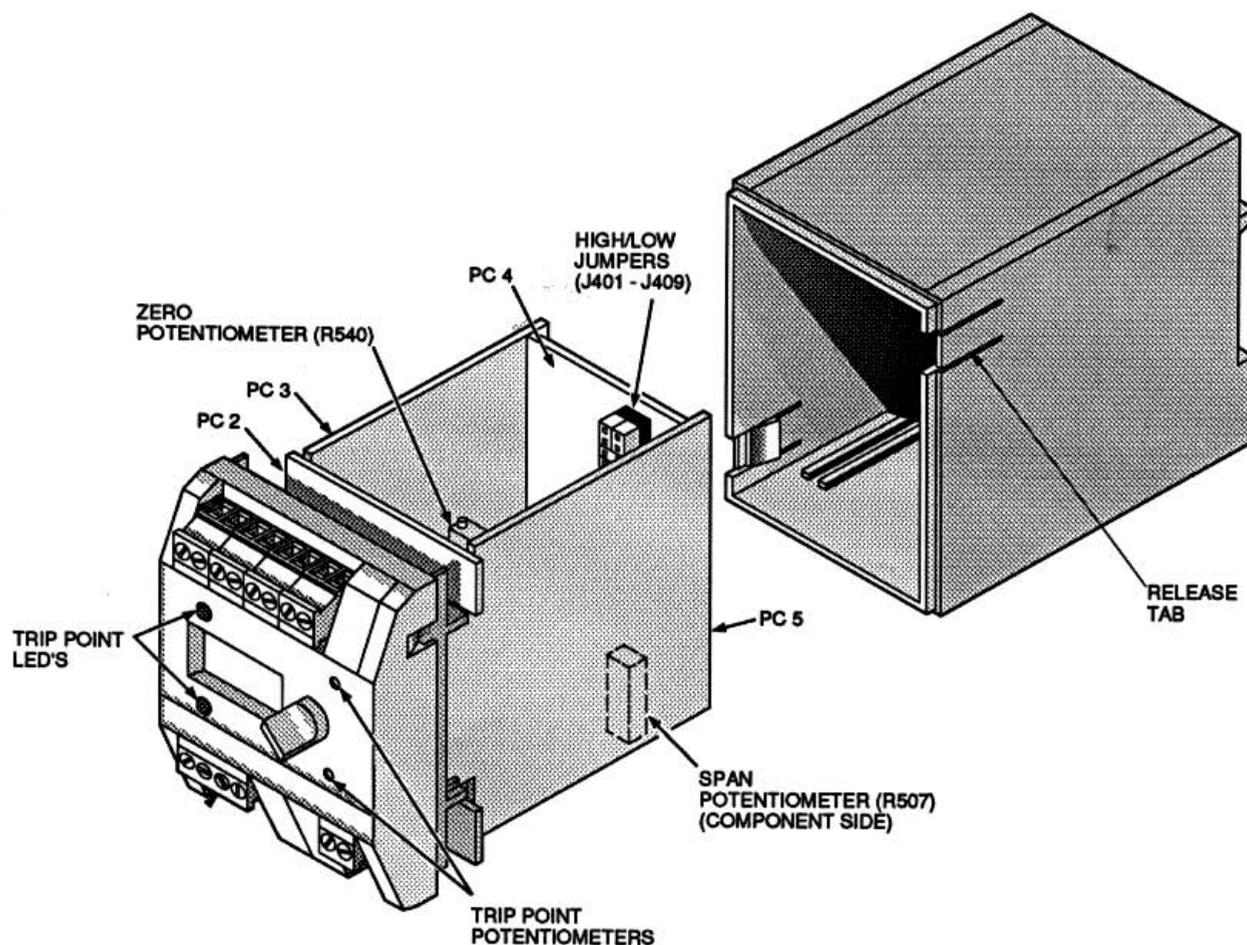

Figure 2. Disassembly Diagram
Zero and Span. The Zero (R540) and Span (R507) potentiometers adjust the input range to zero percent and 100 percent. They are located inside the unit. To adjust these potentiometers, partial disassembly of the unit is required. To access the potentiometers, use a screwdriver to release the tabs on both sides of the unit and pull the front panel straight out. Attached to the inside of the front panel are five PCBs. The Zero and Span potentiometers are located on PC5, one of the side PCBs. See figure 2.
Dead Band. For units with the Adjustable Dead Band (AD) option, adjustment potentiometers are provided inside the unit. R424 is for single alarm units, and R424 and R425 are for dual alarm units. To adjust these potentiometers, partial disassembly of the unit is required. To access the potentiometers, use a screwdriver to release the tabs on both sides of the unit and pull the front panel straight out. Attached to the inside of the front panel are five PCBs. The dead band potentiometers are located on PC4. See figures 2 and 3.
Solderless jumpers are used to set high or low alarms and to configure the input for 2-, 3-, or 4-wire RTDs. To verify or change jumper settings in the field, partial disassembly of the unit is required. To access the jumpers, use a screwdriver to release the tabs on the sides of the housing and slide the front panel out. Attached to the inside of the front panel are five PCBs. The alarm status jumpers are located on PC4, and the input configuration jumpers are located adjacent to the Span potentiometer on PC5. (See figures 2 and 3 and refer to table 2.)
To calibrate an RDA, the unit must be partially disassembled. Refer to the Adjustments paragraph and see figures 2 and 3.
6. If LCD does not display 00.0, adjust Zero potentiometer (R540) located on PC5 for 00.0 (percent). See figure 2.
9. If LCD does not read 100.0, adjust Span potentiometer (R507) located on PC5 for 100.0. See figure 2.